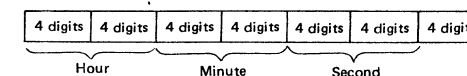

Fig. 17
When terminal (37) of IC506 as shown in the block diagram is at H level (S501: ON, or S401: OFF), terminal (39) is at L level (S601: ON), 1 is added to the clock counter of the microcomputer with the rise of the 16Hz reference signal input from terminal (6). This operation was precedence over the frequency display mode and when the 16Hz signal rises, 1 is added to the clock counter. The clock counter is composed of 28 digits as shown in Fig. 17; it is classified in 4-digit sections from the top; 8 digits each are used for the Hour, Minute and Second. The lowest 4 digits count reference pulses below 1 second; when it counts up to 16, 1 is added to the second counter (5th digit from the bottom). When set to the clock display mode, the digits are classified in 4-digit intervals from the top digit into 6 groups, segment-coded and transmitted to the output buffer while synchronizing with the 6-phase signal. The lowest 4 digits are not displayed.